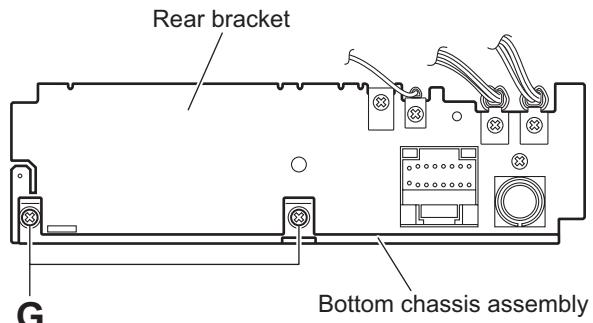

Fig.10
(See Figs.10 and 11)
- (1) From the rear side of the bottom chassis assembly, remove the two screws **G** attaching the rear bracket to the bottom chassis assembly. (See Fig.10)